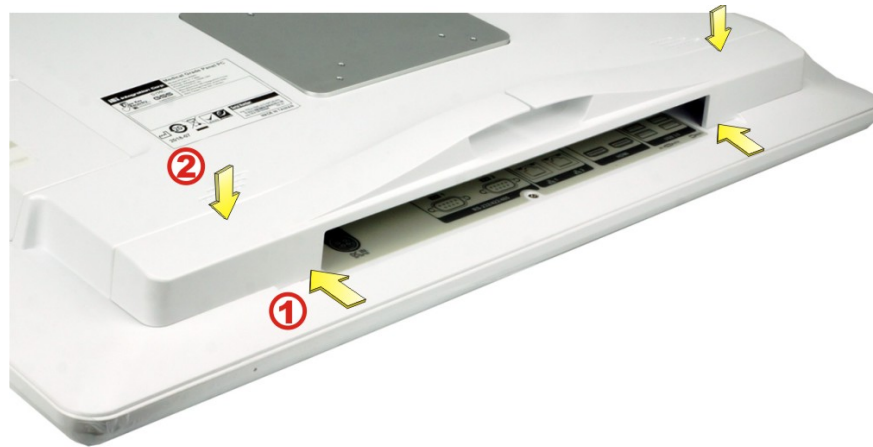

Figure 3-27: Cable Cover Installation
Step 1: Align the two tabs on cable cover with the slots on the bottom panel of the POCm-W22/24C-ULT3 (**Figure 3-27**). Then, insert the tabs into the slots.
Step 2: Push the cable cover down to clip the cover into place (**Figure 3-27**).